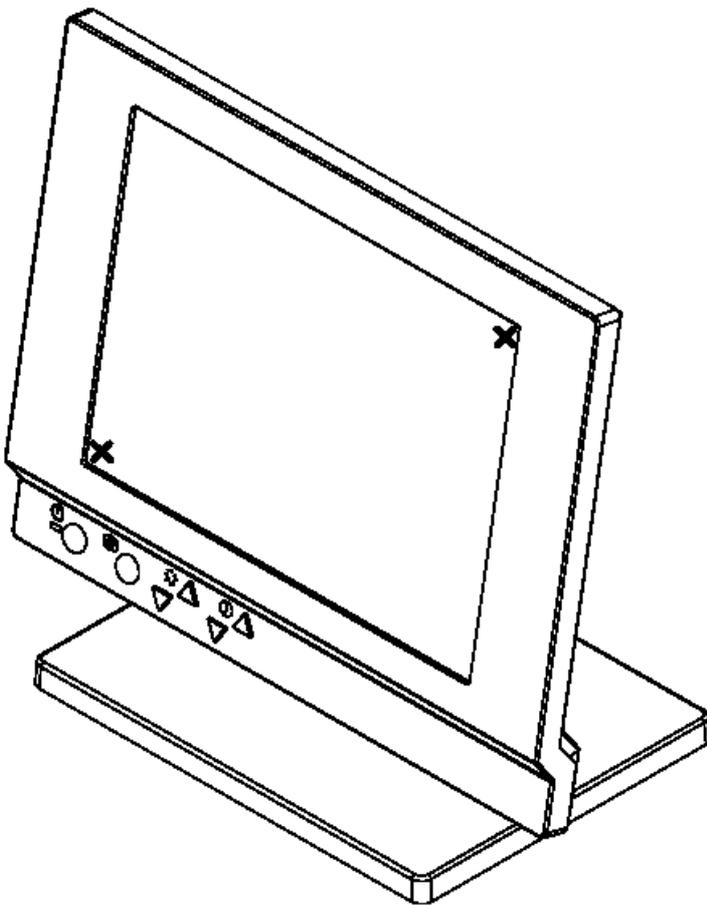

Figure 3-9. Low Resolution Calibration
2. Wait to hear three beeps, then touch the lower left corner of the screen. See Figure 3-9.